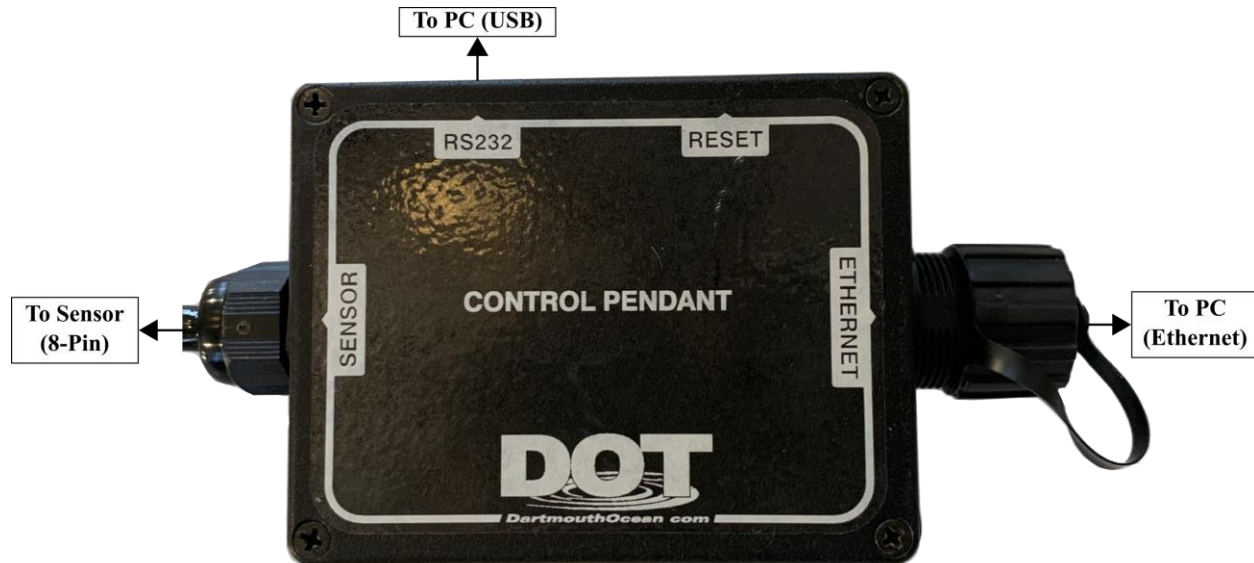

Figure 8: Nitrate & Phosphate Sensor Control Pendant.
- 1) Connect the DB9 end of an RS232 to USB cable to the RS232 port on the electrical communications pendant shown in Figure 8.
- 3) Connect one end of the ethernet cable to the ethernet port of pendant, shown in Figure 8.